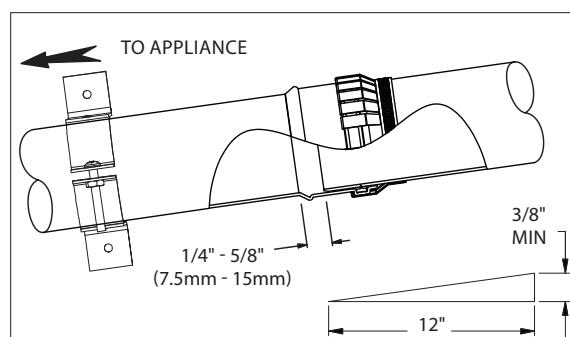

Figure 6
- The slope of the vent pipe must be at least 1.8° (3/8" rise per ft run, 31mm per meter) back to the appliance. Ensure there are no dips in the system where condensate can collect. (**Fig. 6**)
- The venting system shall be securely supported using suitable hangers. Duravent hardware is recommended; field supplied support hardware suitable to the AHJ is acceptable, hardware must not deform or damage the vent. (**Fig. 6 and 7**) Make sure the load of the vent system is not supported by the appliance.
PP Pipe sections must be disengaged 1/4"-5/8" per joint (to allow for expansion) and sloped 1.8°(3/8"per ft) back to the appliance per Fig.6 for proper condensate flow.